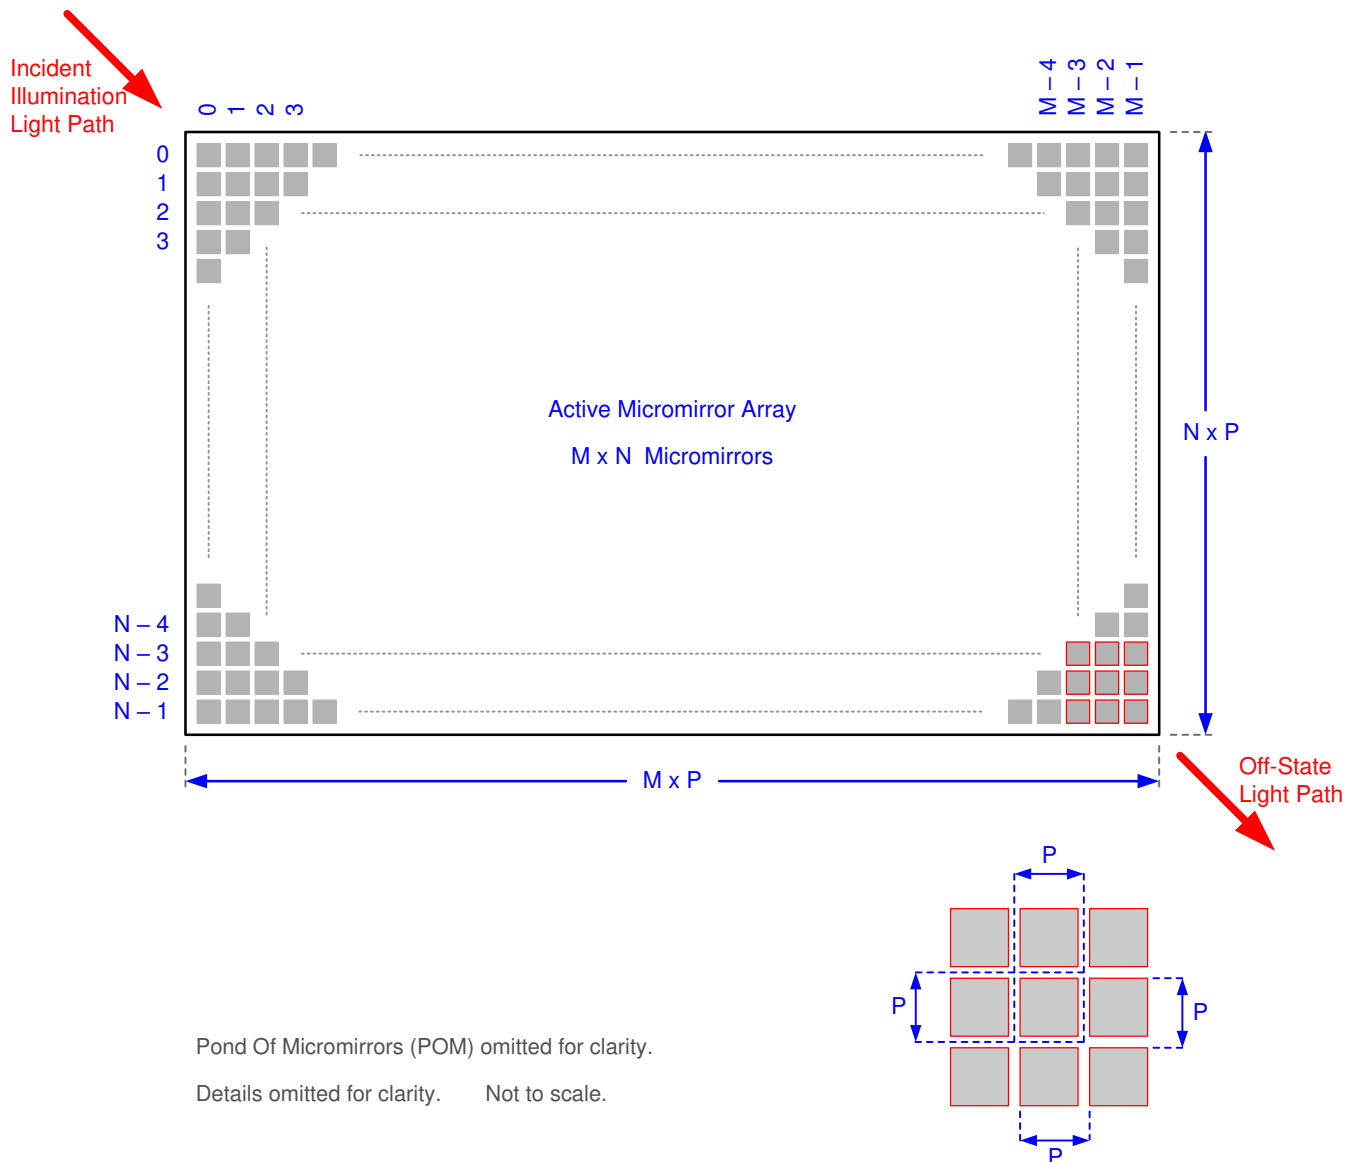

Figure 6-10. Micromirror Array Physical Characteristics
- (1) See Figure 6-10.
- (2) The structure and qualities of the border around the active array includes a band of partially functional micromirrors called the POM. These micromirrors are structurally and/or electrically prevented from tilting toward the bright or ON state, but still require an electrical bias to tilt toward OFF.